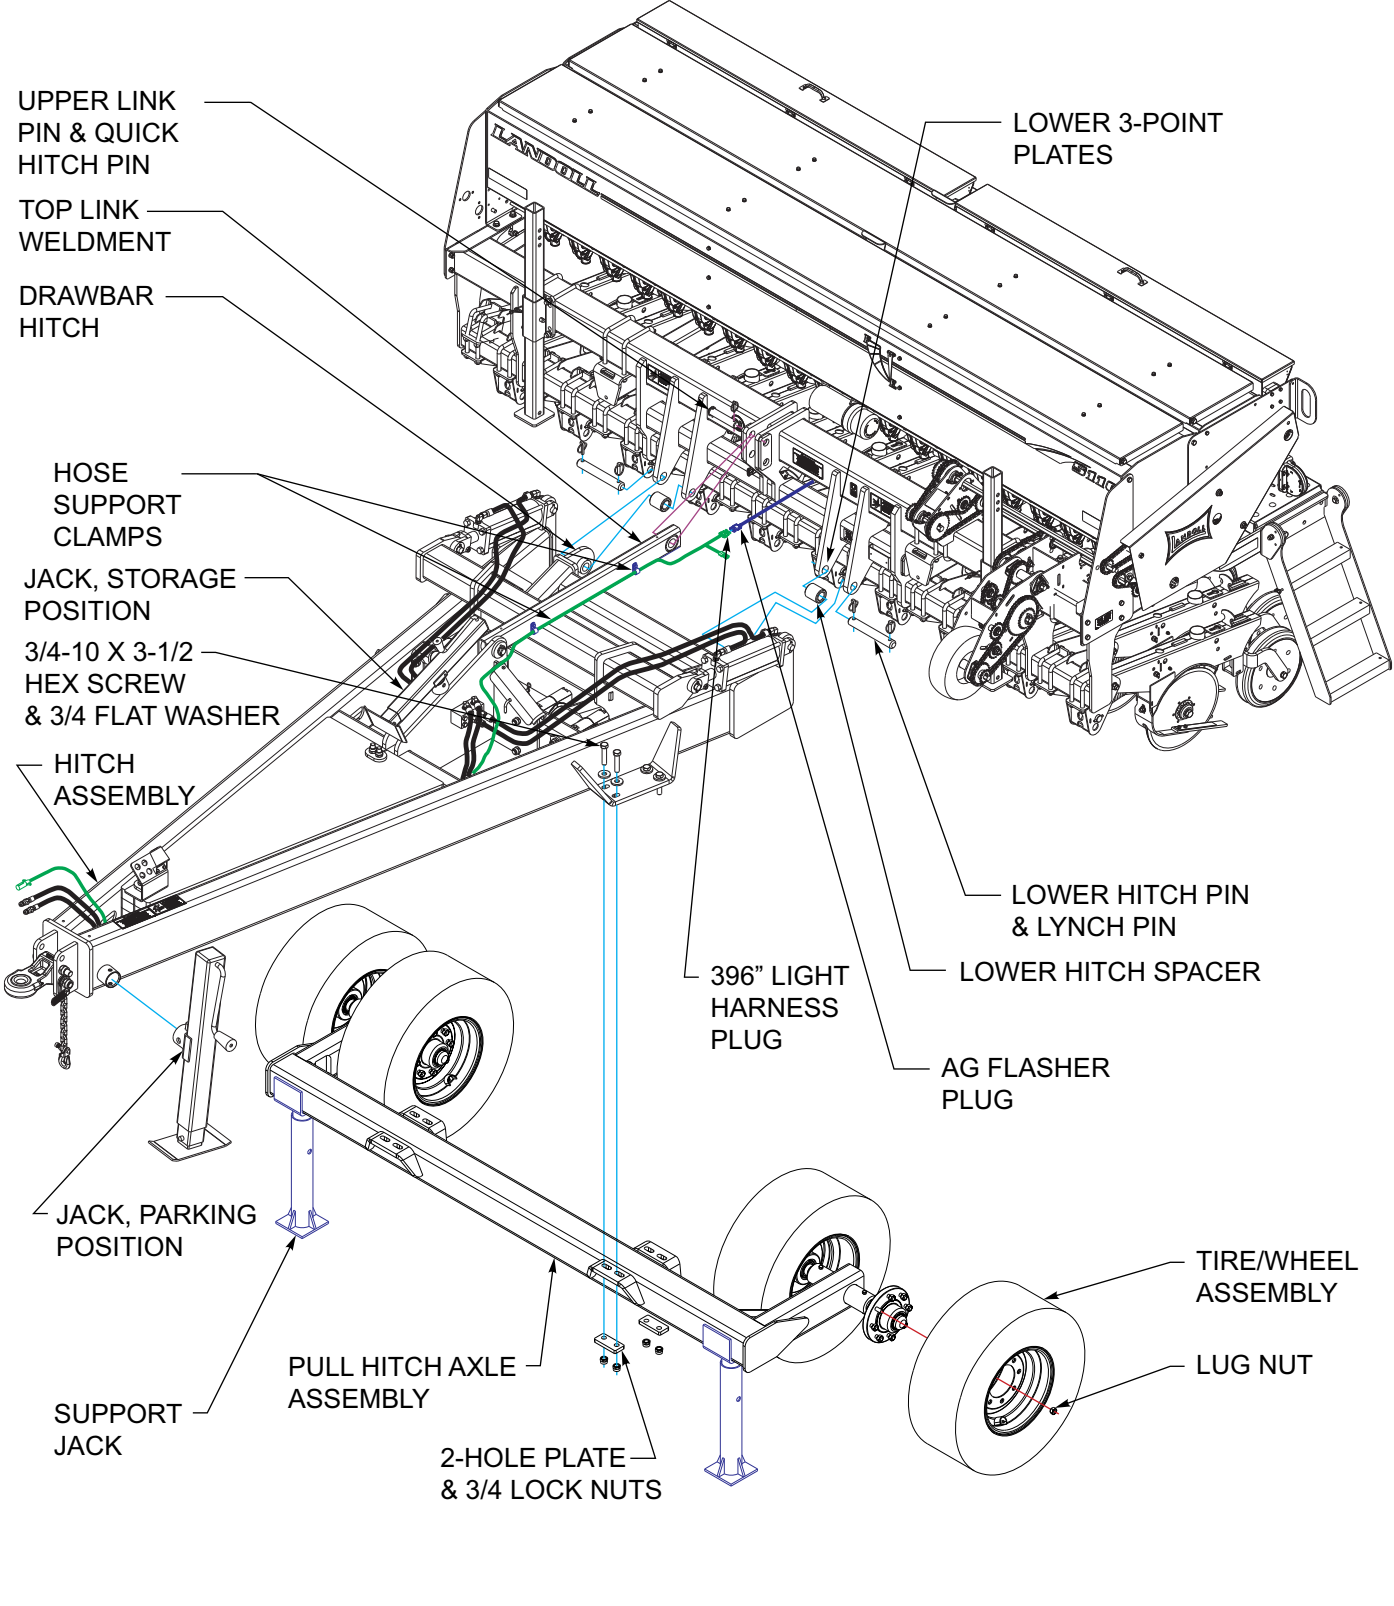
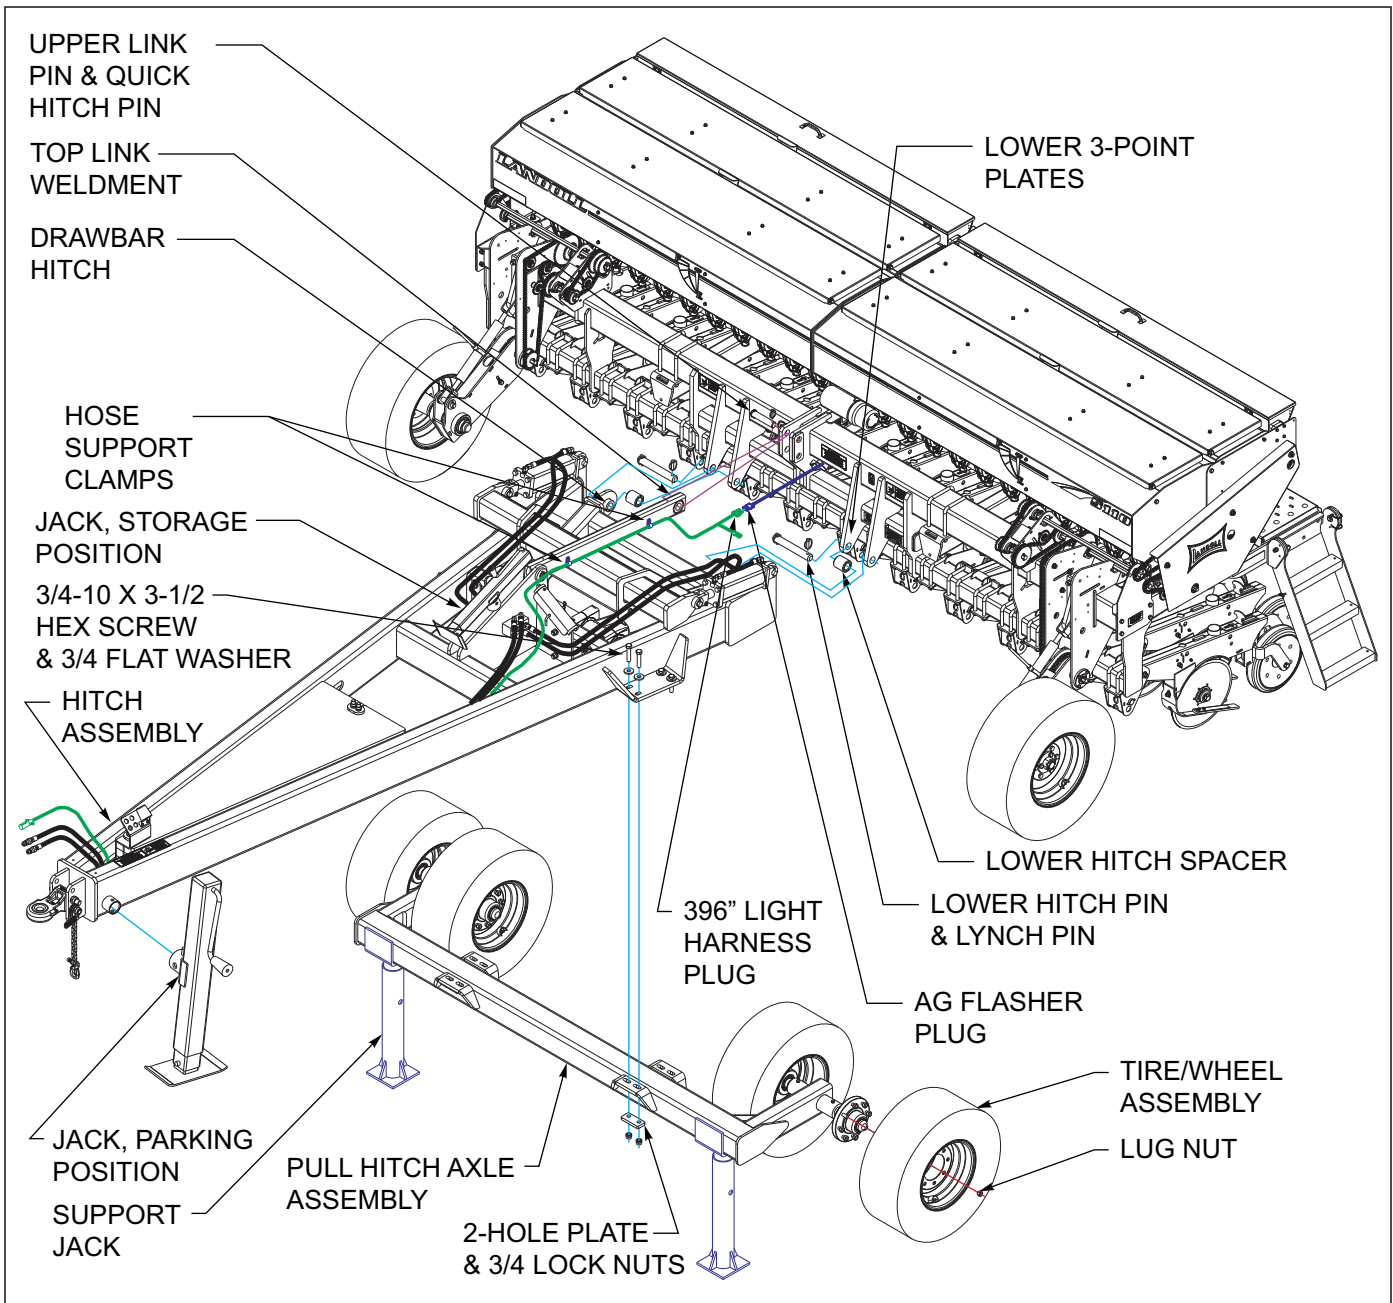

Figure 3-1: 5110-12.5' Pull Hitch Assembly
Figure 3-2: 5110-15' Pull Hitch Assembly
1. Carefully raise the pull axle hitch assembly and install tire/wheel assemblies with lug nuts. Place support jacks under the front of the hitch axle to hold the axle level *See Figure 3-1* model 5510-12.5' or *See Figure 3-2* for model 5510-15'.